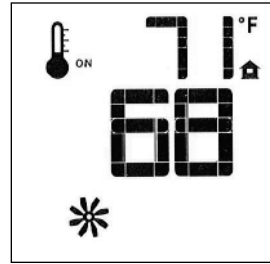

Figure 52. Fan Mode
- Fan speed can be adjusted through six settings. To activate this function, press the Mode Key (Fig. 40) to index to the Fan Control icon. See fig. 52.